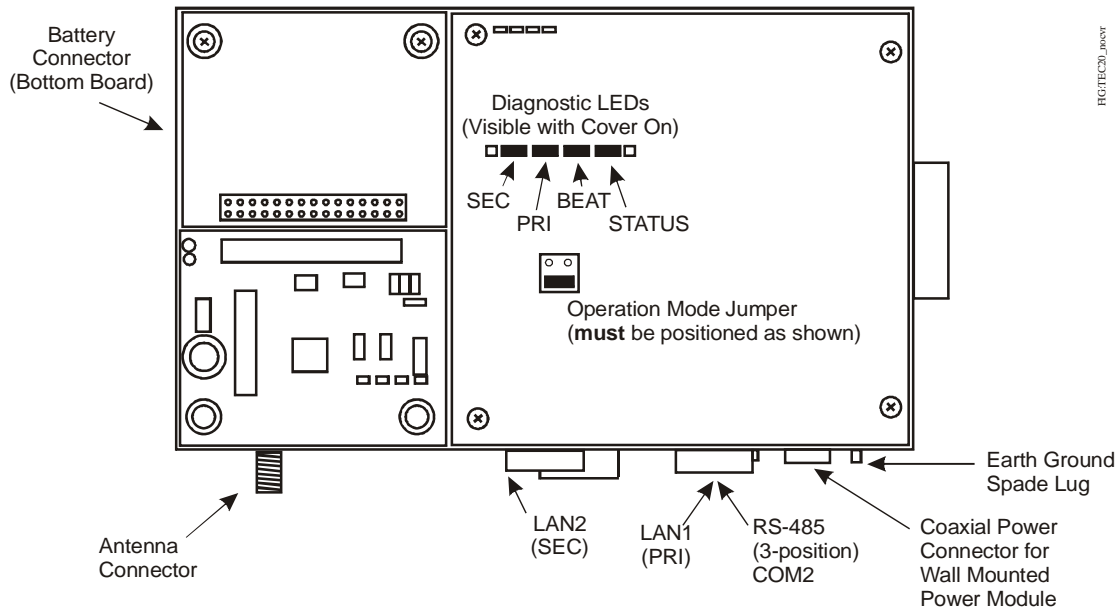
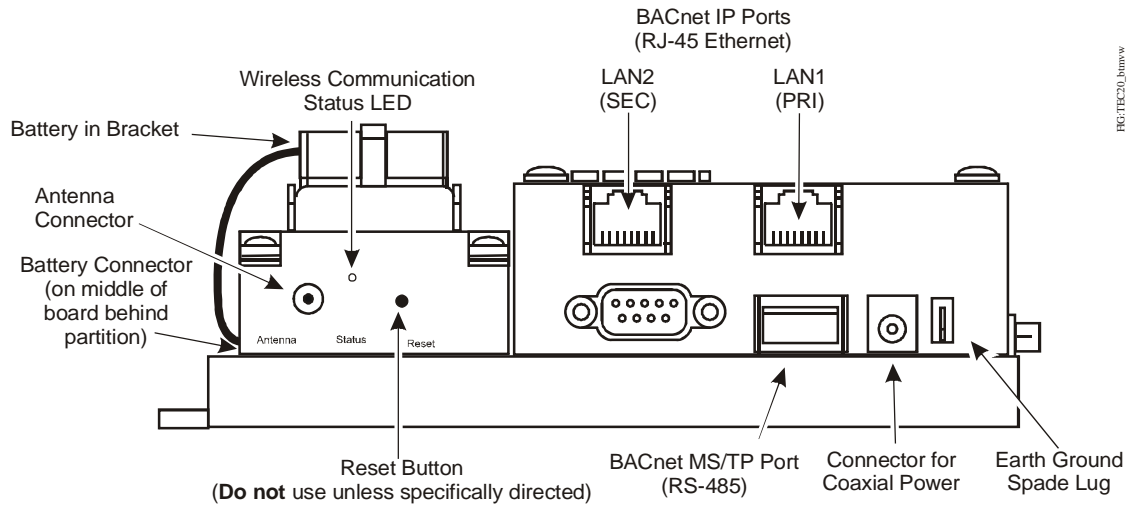

Figure 10: TEC20 Coordinator (Cover Removed)
Figure 11: TEC20 Coordinator, Bottom View (Cover Removed)
2. Remove the cover of the TEC20 Coordinator and connect the backup battery to the battery connector on the bottom of the circuit board. See Figure 10.
4. Apply power to the TEC20 Coordinator and check the diagnostic LEDs. The STATUS (see Figure 10) and Wireless Communication Status (see Figure 11) LEDs light. After the TEC20 Coordinator finishes its self-test sequence (up to 2 minutes), the BEAT LED blinks approximately once per second.
To evaluate wireless communication, check the Wireless Communication Status LED on the TEC20 Coordinator and TEC Wireless Thermostat Controllers. See Figure 11 and Table 4.